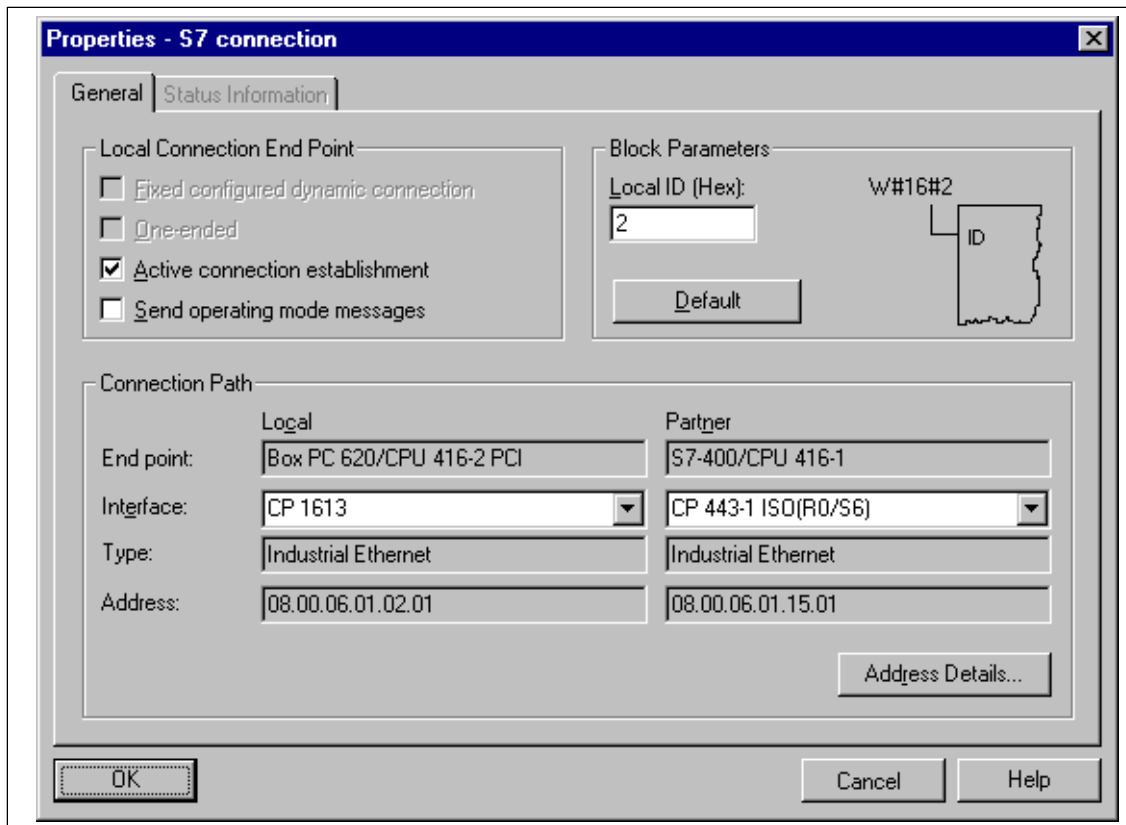

Figure 2-12 Connection Properties
6. Confirm with "Apply". The "Properties - S7 Connection" dialog box opens (refer to Figure 2-12).
7. Check the settings (interface and type) as in Figure 2-12